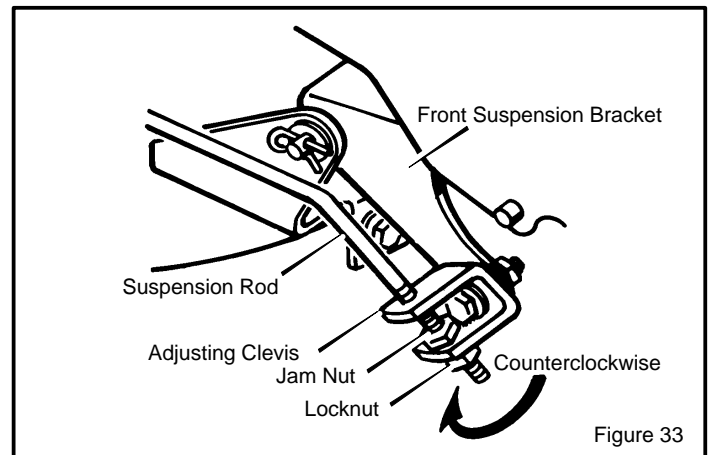

Figure 33
1. Loosen the **jam nut** (Figure 33).